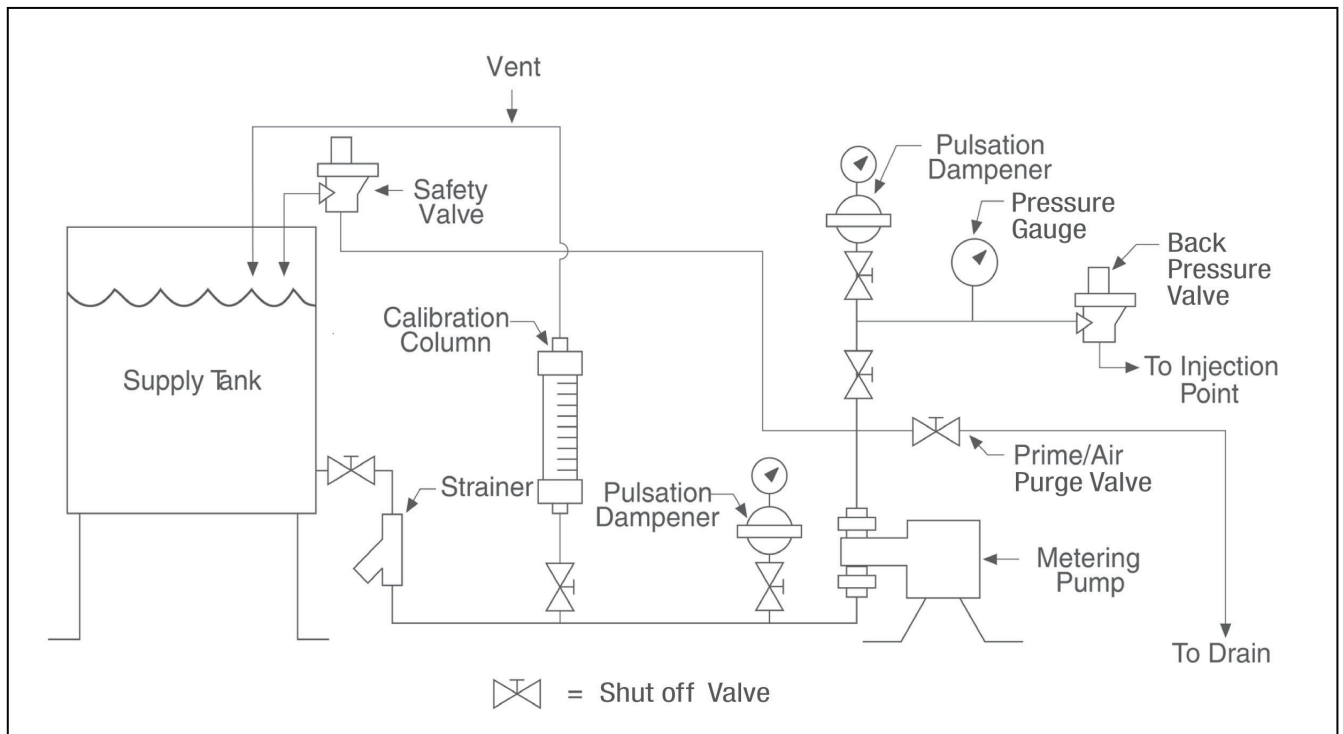

Figure 4. Typical Recommended Pump Installation Scheme
- See Figure 4 for a typical recommended pump installation scheme.
Install the safety valve in the discharge line between the pump and the nearest shut-off valve. (This will prevent pump damage from accidental valve closure.) Pipe the safety valve outlet back to the suction tank or to drain, but in either case ensure that the pipe end is continuously visible so safety valve leakage may be detected. Milton Roy safety valves must be installed at top of supply tank in order to function properly (see *Figure 4*).
Provide shut-OFF valves in both suction and discharge lines next to the pump. Locate discharge line shut-OFF valve downstream from the inlet connection of the safety valve. *Figure 4* shows recommended valve locations.